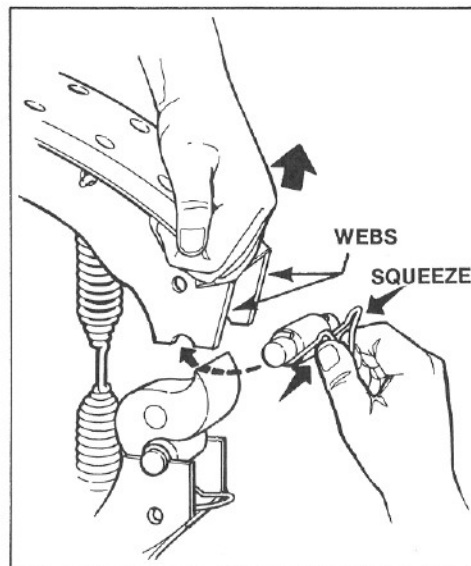

FIGURE 2
- B. Pull the brake shoe assembly away from the cam to allow enough space to install roller and retainer. While holding the shoe in this position, place the roller over the cam and seat journals into half round holes in the brake shoe webs. Squeeze the retainer enough to allow ears to fit between brake shoe webs. (Figure 2)